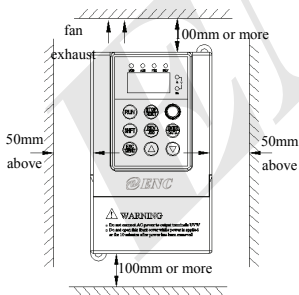

Fig.3-1 Installation distance
- (1) Normally the inverter should be mounted vertically, horizontal mounting will seriously affect heat dissipation and the inverter must be used in lower volume.
- (2) Demand for minimum mounting space and distance, please see Fig.3-1.